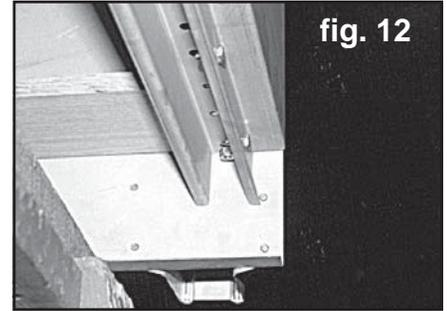

fig. 12
14. Slide the two center-hole cross sill brackets onto the front cross sill (identified by the hole pattern on the side leg of the cross sill), and attach the front cross sill to the first angle strip bolt from the front bed panel. This cross sill also bolts to the front bed panel with nine 1/4"-20 x 5/8" hex head bolts, lock washers, and nuts supplied with the front panel hardware. See figure 12.